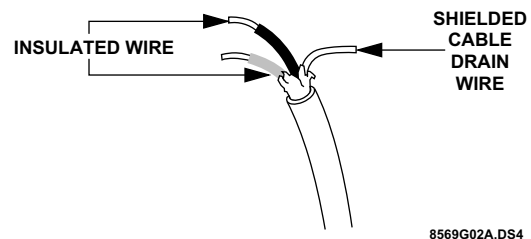

Figure 5 Shielded Cable Detail
- Connect the shielded cable drain wire (bare wire as shown in figure 5) to ground terminal 19.